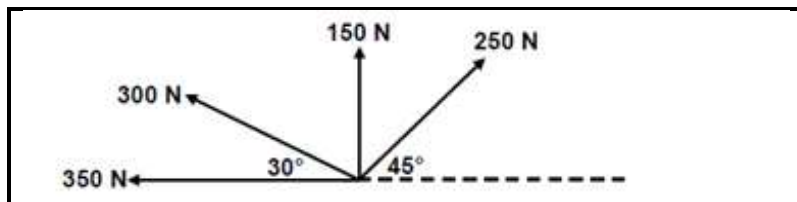

Figure 1.2
1.2 (May – June 19) FIGURE 1.2 below shows a system of forces with four coplanar forces acting onto the same point. Use calculations and determine the magnitude and direction of the resultant force for this system of forces.
HINT: Draw and complete the diagram in FIGURE 1.2 Show ALL the horizontal and vertical components before you do the calculation.